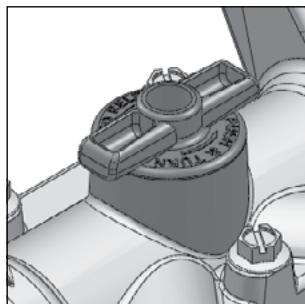

Figure 1.3
- Insert the plug and then rotate  $\frac{1}{4}$  turn clockwise as shown in **figure 1.3**.